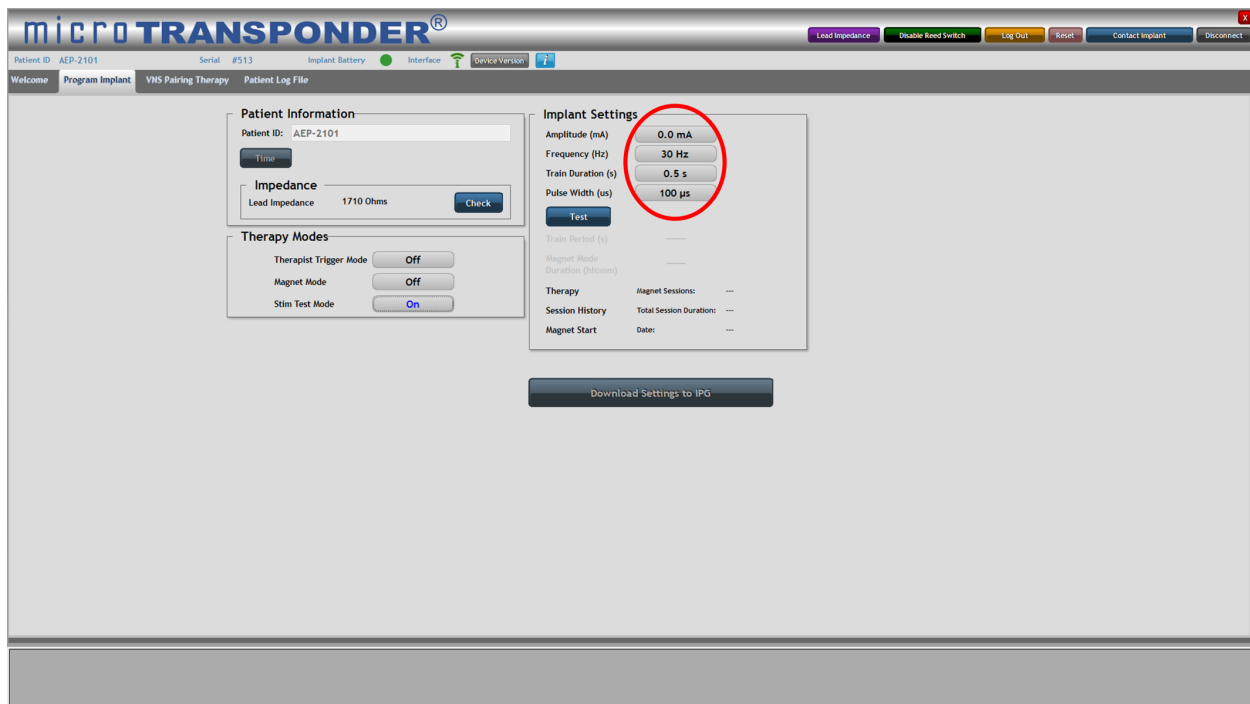

Figure 4.11: Implant Setting Parameters
2. Each of the implant setting parameters available in the **Implant Settings** menu has a box next to the setting (see Figure 4.11). Select the box to display all available parameters in a drop-down box.